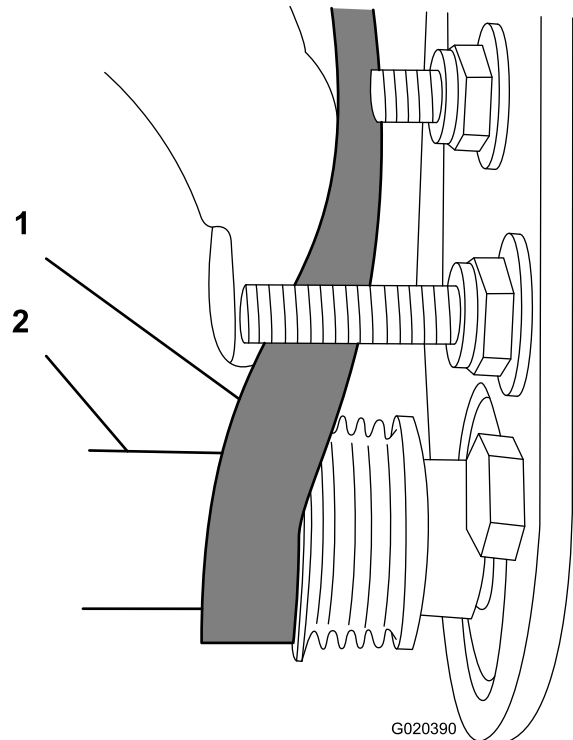

Figure 12
3. Use a 9/16 inch deep-well socket to rotate the brush assembly and guide the belt onto the driven pulley (Figure 12).